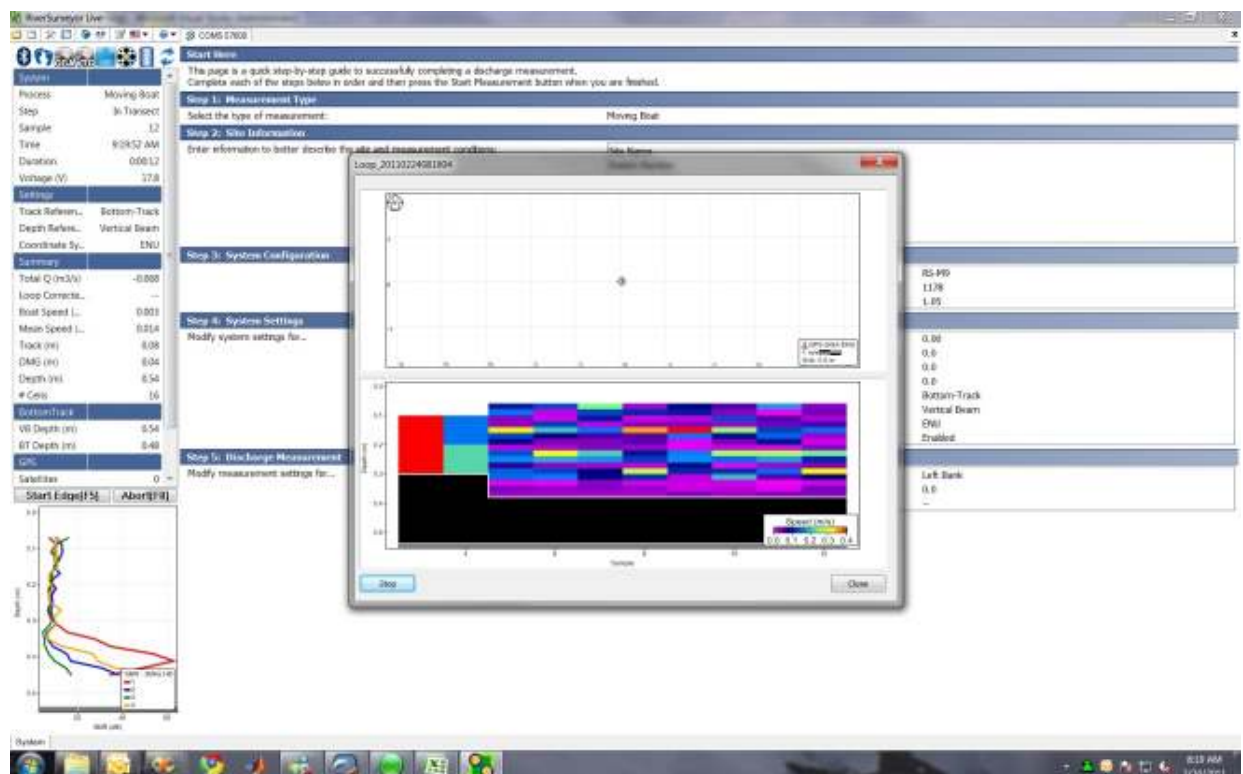
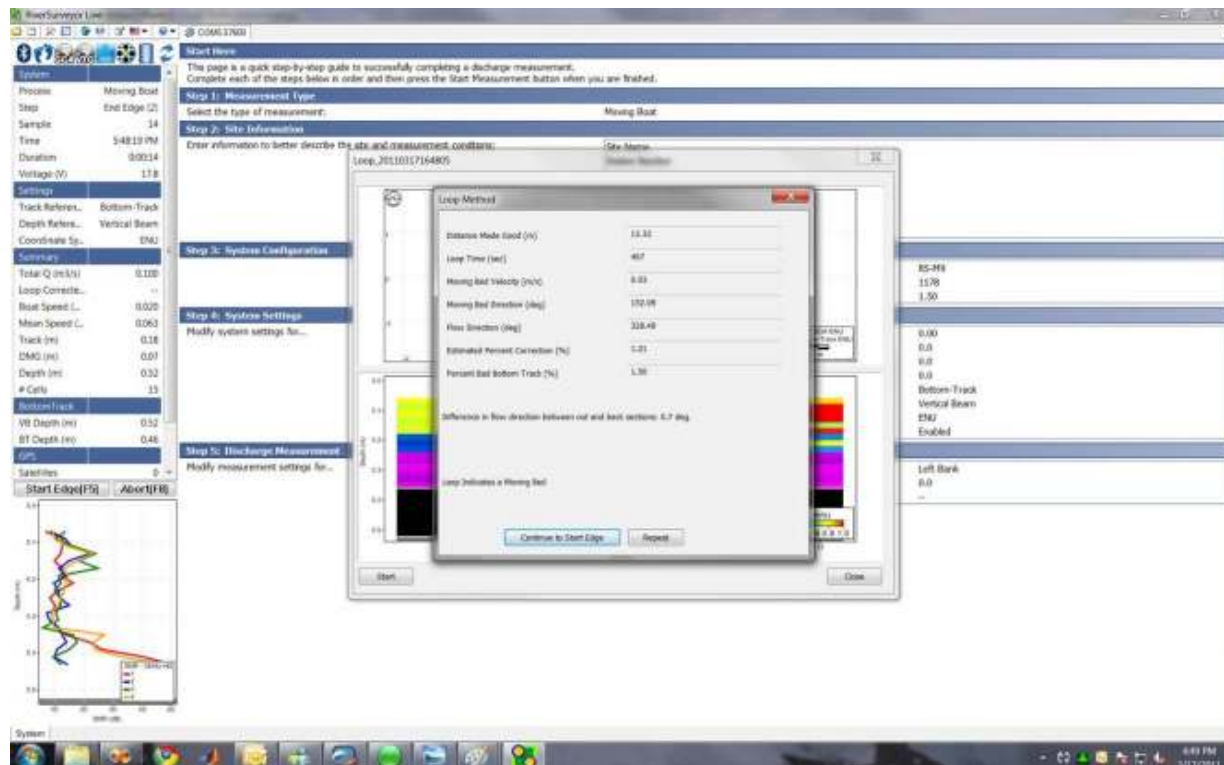

Figure 130. Stop Loop Method
Figure 131. Loop Method Results
- After returning to the starting position and the boat is stationary, press the **Stop** button (Figure 130). There will be a slight pause as the loop calculation is performed. The results will be displayed the PC software as shown in Figure 131: